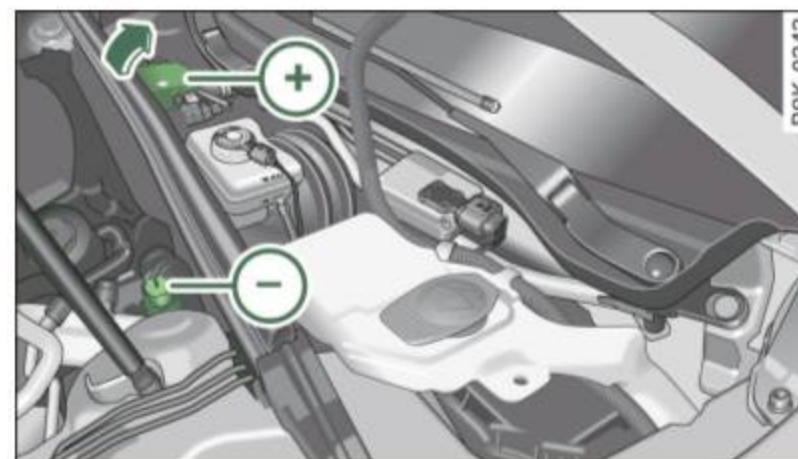

Fig. 239 Engine compartment: Connectors for jumper cables and charger
- Open the red cover on the positive pole \Rightarrow page 326, fig. 239.